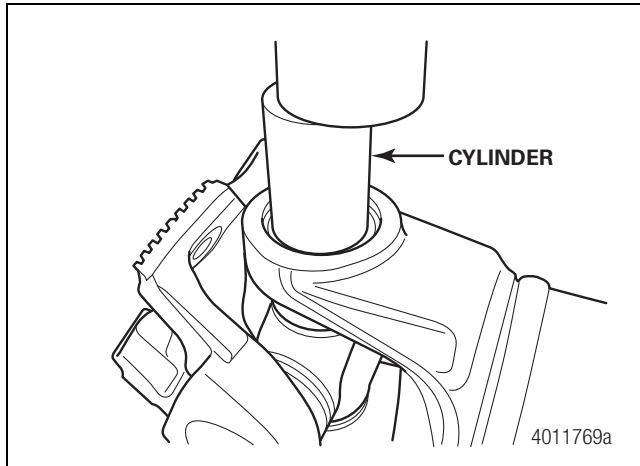

Figure 4.74
7. Install the cylinder to press the bushing/bearing assembly down so there is enough clearance for the snap ring to be installed. Figure 4.74.